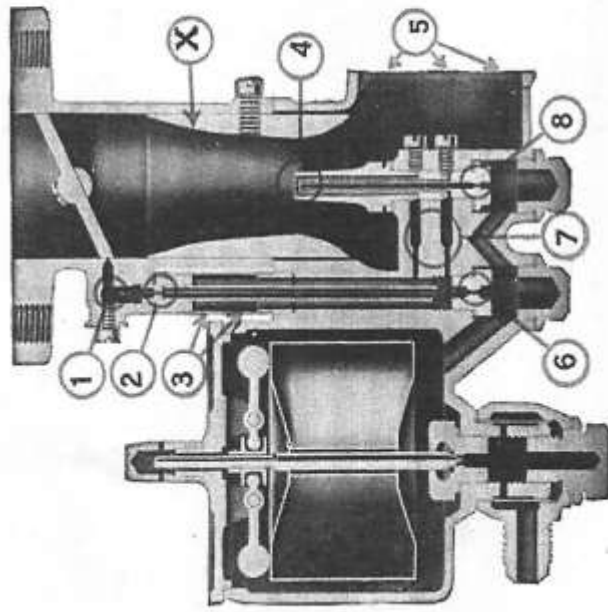

Fig. 4. Sectional view of the Zenith model "U" carburetor.
The illustration, Fig. 4, shows a sectional view of the model "U" Zenith carburetor.
Number 5 designates the main air intake of the carburetor. The amount of air necessary to meet the demands of the engine is measured through the choke tube (X) (see Fig. 4).
When the engine is idling the well is about half full of fuel. This provides a reserve for acceleration as, when the throttle is open, this fuel rushes through passages (7) Fig. 4, to balance the air passing by the compound nozzle.
Fig. 11. Main jet (size stamped on base). This is the long jet (8) Fig. 4, page 1294. It is directly connected with the fuel and venturi. It is in amount of fuel drawn with the air needed for starting, and small enough to keep the air moving fast enough at low speed to completely atomize the fuel.
Fig. 13. Cap jet. This is not a measuring jet and bears no mark and is made in one size only. The fuel measured through the comp. jet goes through channel hole (7) (Fig. 4) and out of the choke tube and throttle valve.
Fig. 14. Idling jet (size stamped on nut at top). This is the jet (2) (Fig. 4) and its sole function is to supply fuel for closed throttle operation. Immediately this throttle is opened it is put out of action as the fuel goes into carburetor through esp. jet.
Fig. 15. Cap jet. This is not a measuring jet and bears no mark and is made in one size only. The fuel measured through the comp. jet goes through channel hole (7) (Fig. 4) and out of the choke tube and throttle valve.
Fig. 16. Idling jet (size stamped on nut at top). This is the jet (2) (Fig. 4) and its sole function is to supply fuel for closed throttle operation. Immediately this throttle is opened it is put out of action as the fuel goes into carburetor through esp. jet.